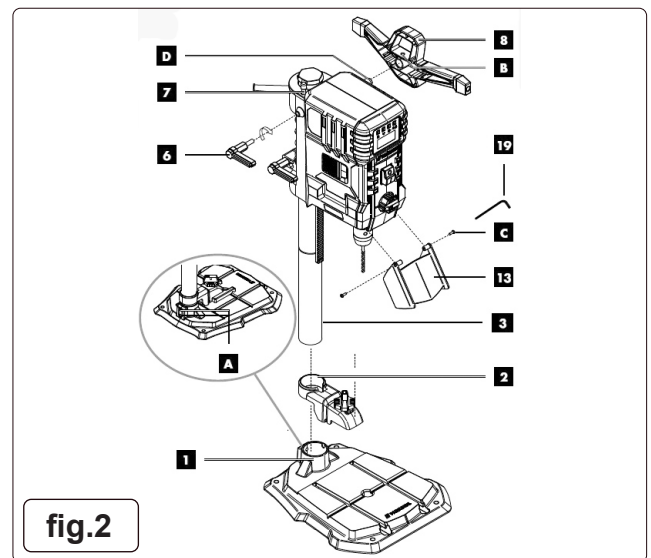

fig.2
5.1. ASSEMBLING THE BASE PLATE AND COLUMN (fig.2)
5.3. FITTING THE CHUCK GUARD (FIG.2)
5.4. HANDLE FITMENT (fig.2)
- 5.4.1. Slide the handle (8) onto the retainer (D) as shown in fig.2.
5.5. FITTING THE DEPTH STOP (fig.2)
5.6. CLAMPING LEVER FOR DEPTH STOP ASSEMBLY (fig. 2)
- 5.6.1. Assemble the clamping lever for depth stop (6) as shown in fig.2.